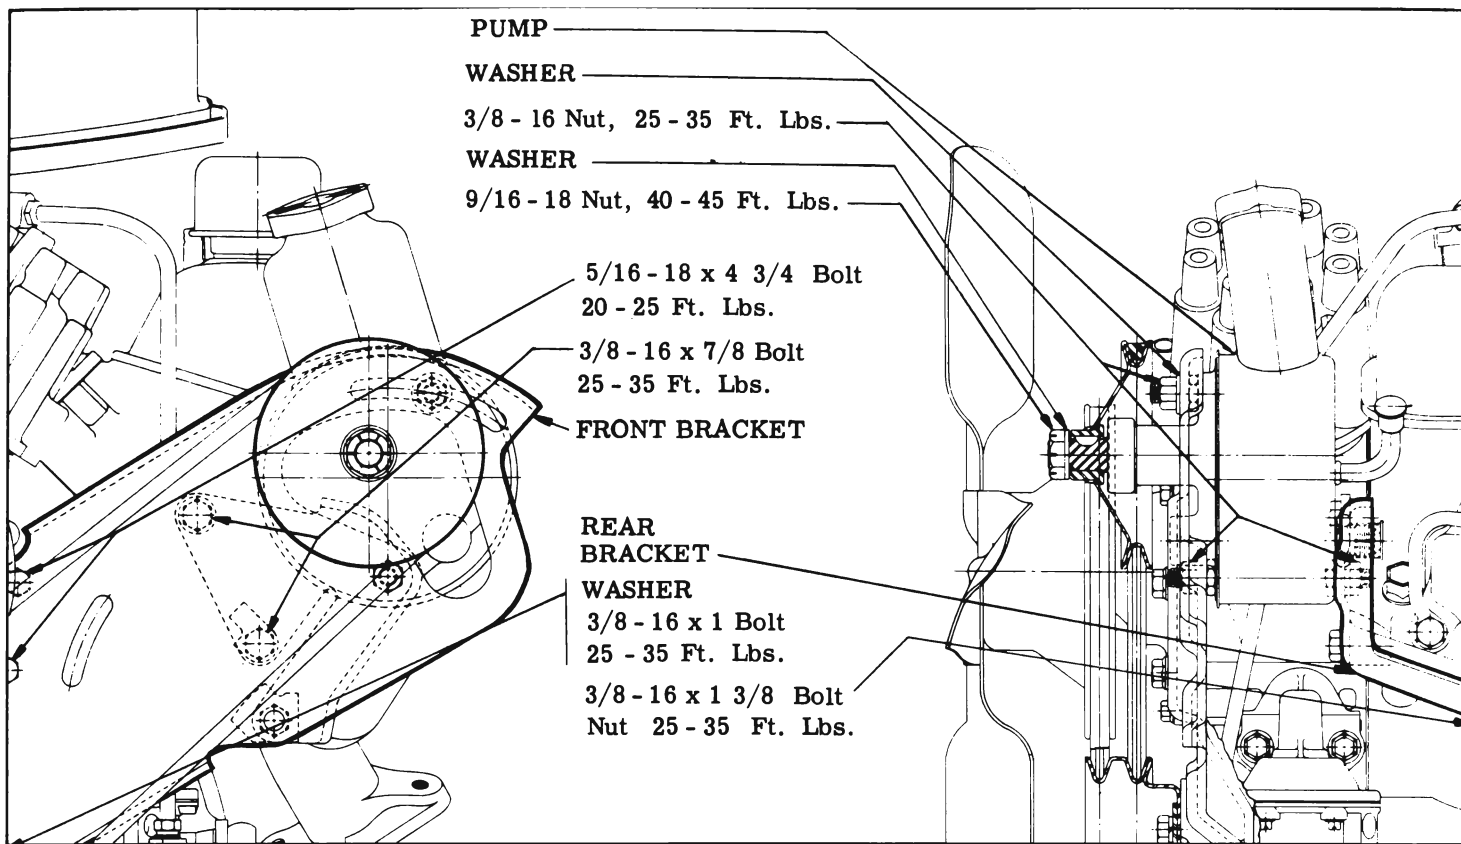

Figure 8-36 Oil Pump Mounting - V-8 Engine
3. Remove the two nuts that attach pump to front mounting bracket and the one nut that attaches it to rear bracket. See Figure 8-36.